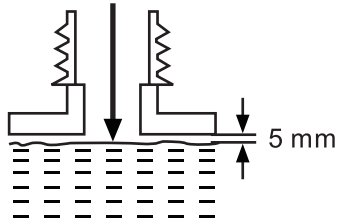

Fig. 9b
c). Use a proper funnel with a filter to prevent debris entering the tank and to avoid spilling and overfilling the tank. Do not overfill and leave approximately 5 mm of space to the lower edge to allow the lubricant to expand. (See Fig. 9b)